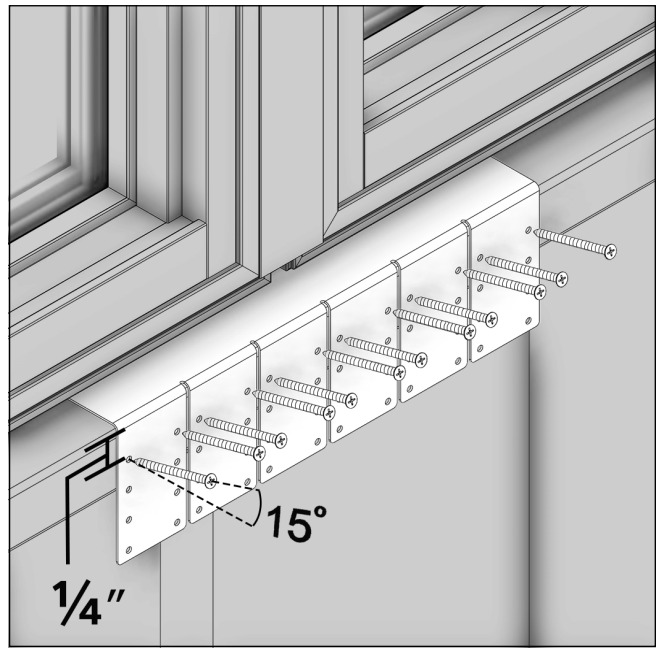

Figure 90
22. Bend gussets against wood framing as shown in Figure 90. Attach the gussets with twelve #8 x 1-5/8" screws. Make sure that the screws are no more than 1/4" from the bend in the bracket (edge of wood buck). Angle the screws approximately 15 degrees toward the thicker part of the framing member. *NOTE: It may be necessary to drill two 5/32" holes in the bracket.*